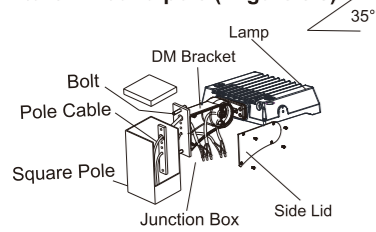

Figure 5.1
Step 1: Fix DM bracket to square pole with bolt, open the side lid of DM bracket, pull the wire into junction box, and connect the wire correctly. (Figure 5.1)